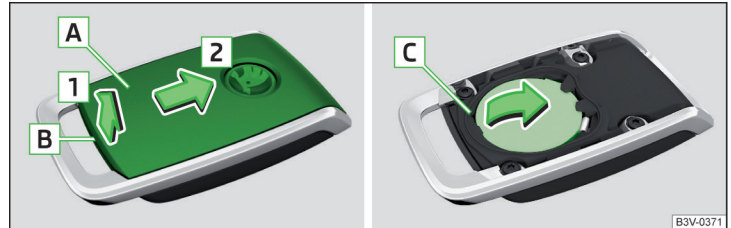

Fig. 340 Open the cover/remove the battery
- Use a thin screwdriver to remove the cover **A** in the area **B** » Fig. 340.